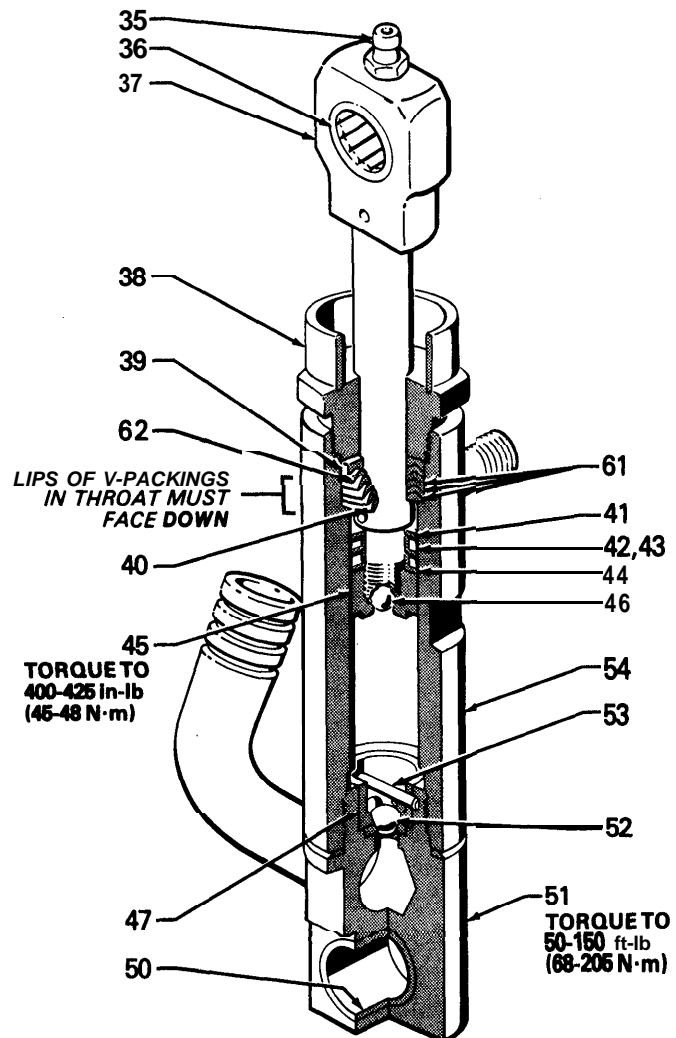

Fig 7
Screw the intake valve (51) housing out of the displacement cylinder (54). Remove the ball stop pin (53), guide (47), and ball (52). Clean and inspect for wear or damage. Reassemble, using new parts from the repair kit. Torque the intake valve housing to 50-150 ft-lb (68-205 N·m). See Fig 7.
Screw the packing nut (38) out of the displacement cylinder (54). Carefully pull the displacement rod assembly (34) and piston housing (45) out of the cylinder. Wrap the rod end with tape to protect the bearing (36) and clamp securely in a vise. Screw the piston off the rod using a wrench on the hex of the piston (if it's too tight, heat it in boiling water to soften the locking compound). Remove the ball (46), glands (41, 44) and packings (42, 43). Slide the throat packings (61, 62) and glands (39) off the rod. Clean and inspect. Install the repair kit parts. Be sure to install the PTFE and leather packings in the order shown. See Fig 7 and the Parts Drawing.
Use an arbor press to remove and install bearings (36, 50) in the displacement rod (37) end and in the intake valve (51) housing. See Fig 7. When replacing the displacement rod bearing, be sure the hole in the bearing lines up with the lubrication hole at the top of the rod. See Fig 7. Soak the valve bearings in oil before installing. Grease the displacement rod bearing whenever the pump is removed.